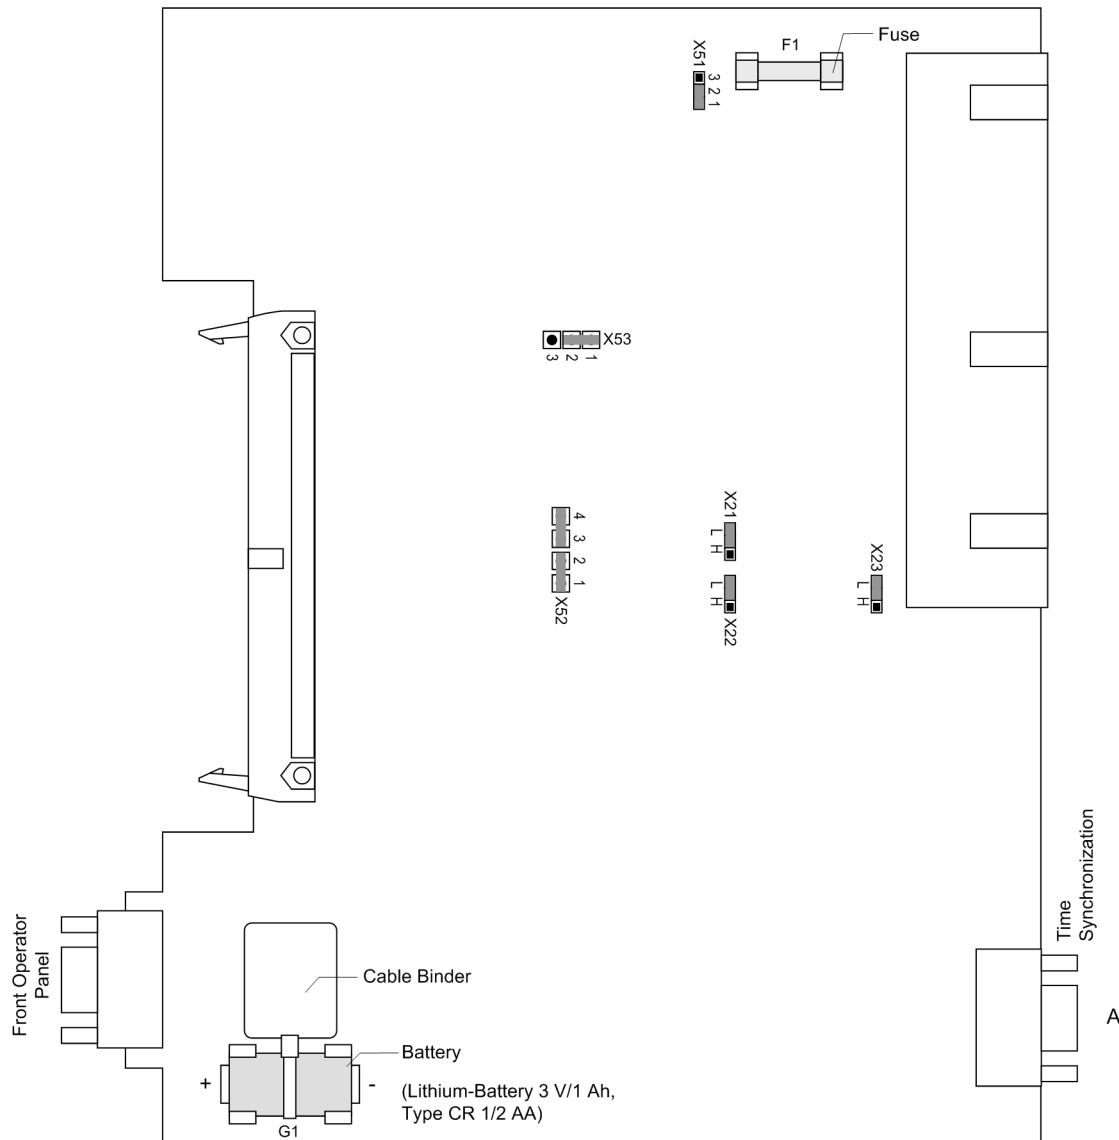

Figure 3-8 Processor printed circuit board A-CPU for devices up to release .../DD with jumpers settings required for the board configuration
- Check the jumpers according to figures 3-8 to 3-17 and the following information. Change or remove the jumpers if necessary.